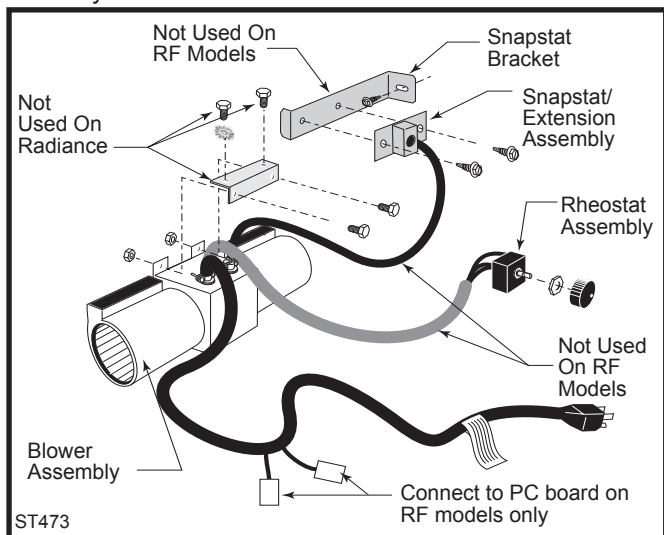

Fig. 14 Fan kit components.
1. The fan kit includes a Blower Assembly and a Rheostat Assembly, connected by a cable. (Fig. 14) The Blower Assembly mounts to the bottom rear of the stove, and the Rheostat mounts to the valve cover-plate. The assembly includes a 'snapstat' which automatically turns the fan On (or Off) above (or below) approximately 109°. The Rheostat also provides a range of fan speed settings from Off (which overrides the snapstat function) to High. Unpack and inspect the Blower assembly. Confirm that the fan spins freely.